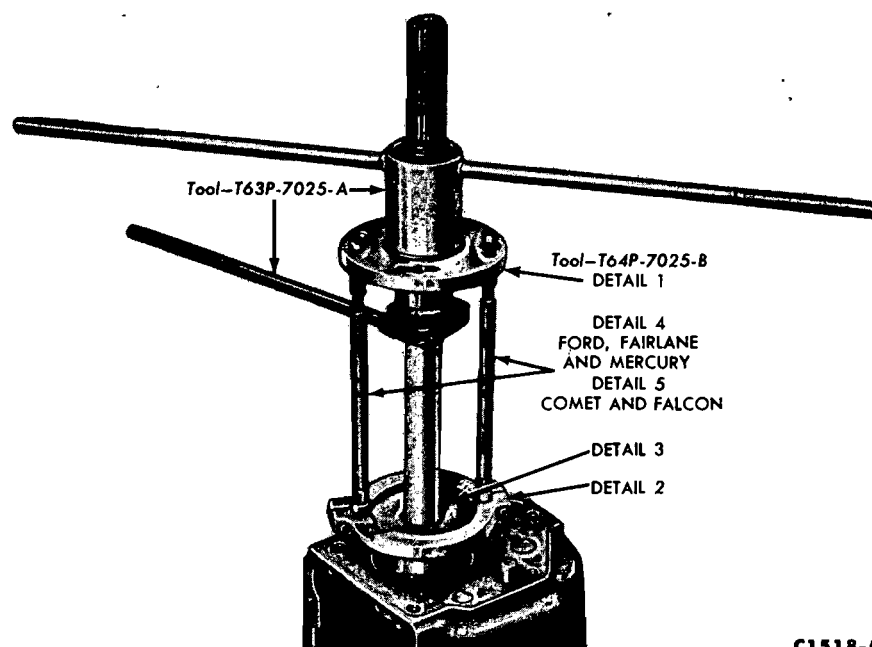

FIG. 21—Installing Output Shaft Bearing
31. Install the output shaft bearing as shown in Fig. 21. Install the snap ring to retain the bearing.